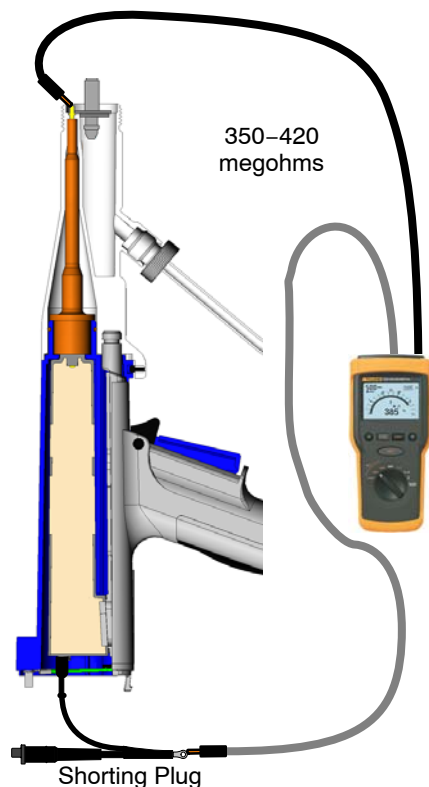

Figure 13 Test with Shorting Plug
Use the optional shorting plug shown in Figure 13 when testing resistance from the multiplier receptacle to the adapter spring plunger. Refer to *Options in Parts* for the shorting plug part number.
1. See Figure 13. Remove the end cap and nozzle from the spray gun.